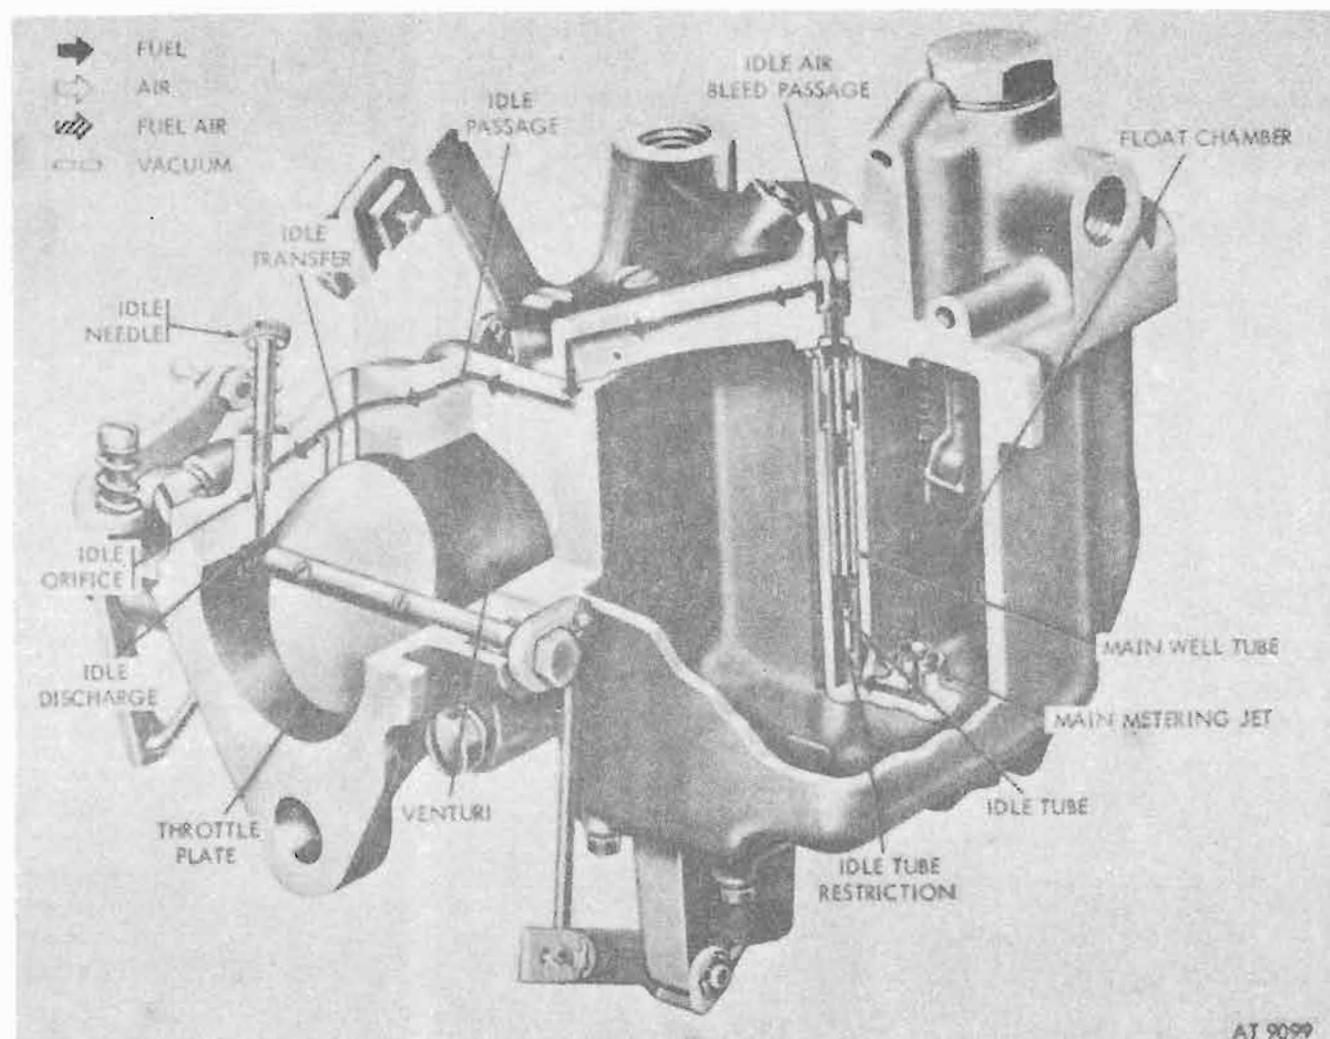

Figure 5-3. Idle fuel system.
c. *Idle Fuel System* (fig. 5-3). Purpose of the idle system is to provide proper air-fuel mixture at idle and extremely low speeds. At idle and low speeds, air flow through the carburetor is slow and vacuum created in the venturi is not sufficient to operate the main metering system. Intake manifold vacuum is high because the nearly closed throttle plate has greatly restricted air flow. This high manifold vacuum provides the pressure differential which operates the idle system. The idle system functions independently of any other system from idle to part-throttle. From part-throttle to full-throttle the main metering system gradually takes over, and the idle system ceases to function. Fuel enters the idle tube located in the main well tube. The idle tube has a restriction at the bottom end to control the amount of fuel entering. The idle bleed